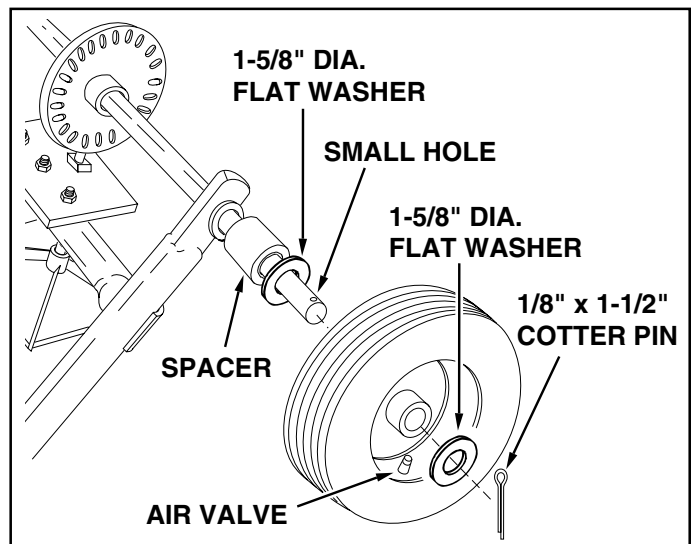

FIGURE 3
- 7. Assemble a spacer and a 1-5/8" flat washer onto the end of the axle that has the small hole. See figure 3.
- 8. Turn the idler wheel (no hole in hub) so that the air valve faces out. Place onto the axle and secure with a 1-5/8" dia. flat washer and a 1/8" x 1-1/2" cotter pin. Use the extra washer if needed to take up play. See figure 3.